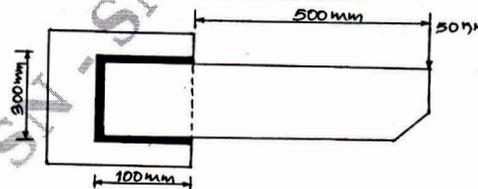

Fig.Q7(b)
b. Determine the size of the weld required for an eccentrically loaded weld as shown in Fig.Q7(b). The allowable stress in the weld is 75 N/mm^2 .